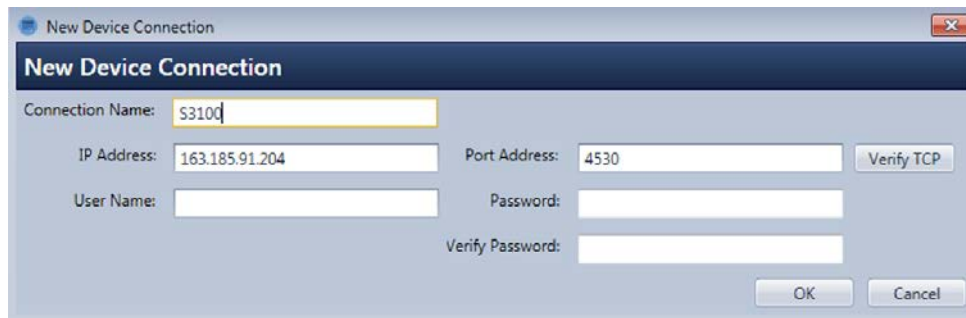

Figure 3.1—New Device Connection dialog
3. Enter the following in the *New Device Connection* dialog (Figure 3.1):